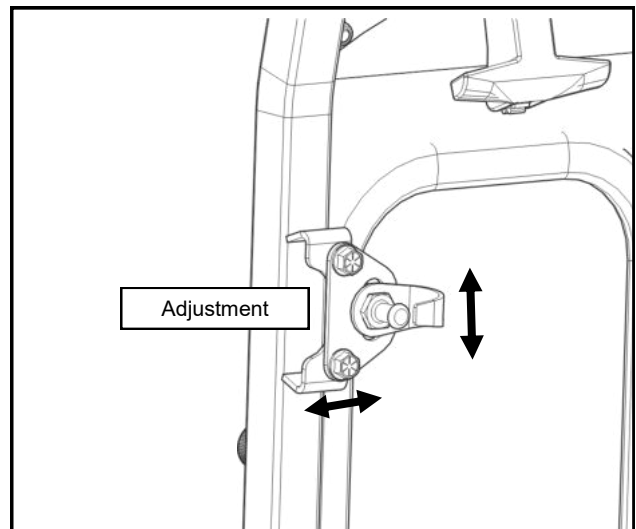

Fig. 24.3 (Striker Pin Adjustment)
**24.4** Open the door and check for smooth operation of the latch. As noted in step 24.3, the door will likely drop a little bit at the front and the striker pin will need to be adjusted down accordingly. Also make sure the door seal is making contact along the perimeter of the door and the latch clicks twice when closing. If necessary adjust the striker in or out to achieve this (see Figure 24.3).